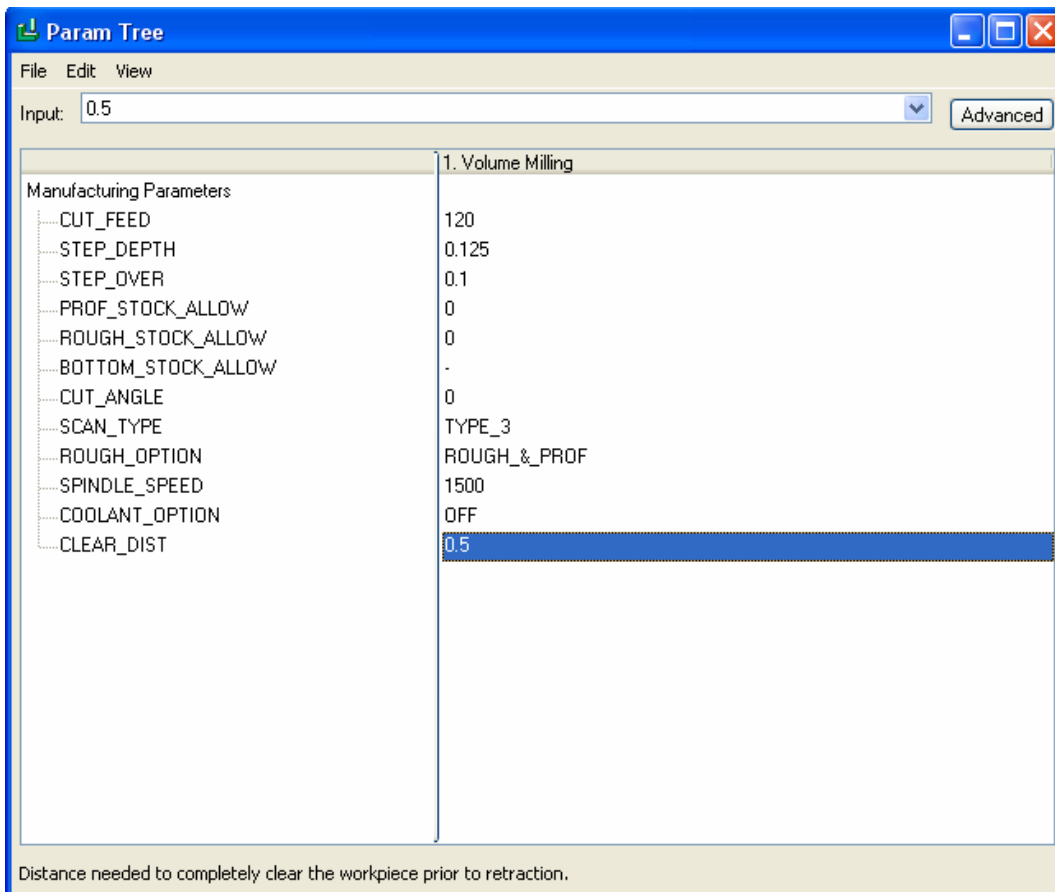

Figure 8c: Manufacturing Tool Parameters
Step 9: Enter the tool parameters shown in Figure 8c.
Step 10: After the values in Figure 8c are set, select FILE >> EXIT to save and exit the Parameter Tree dialog box.